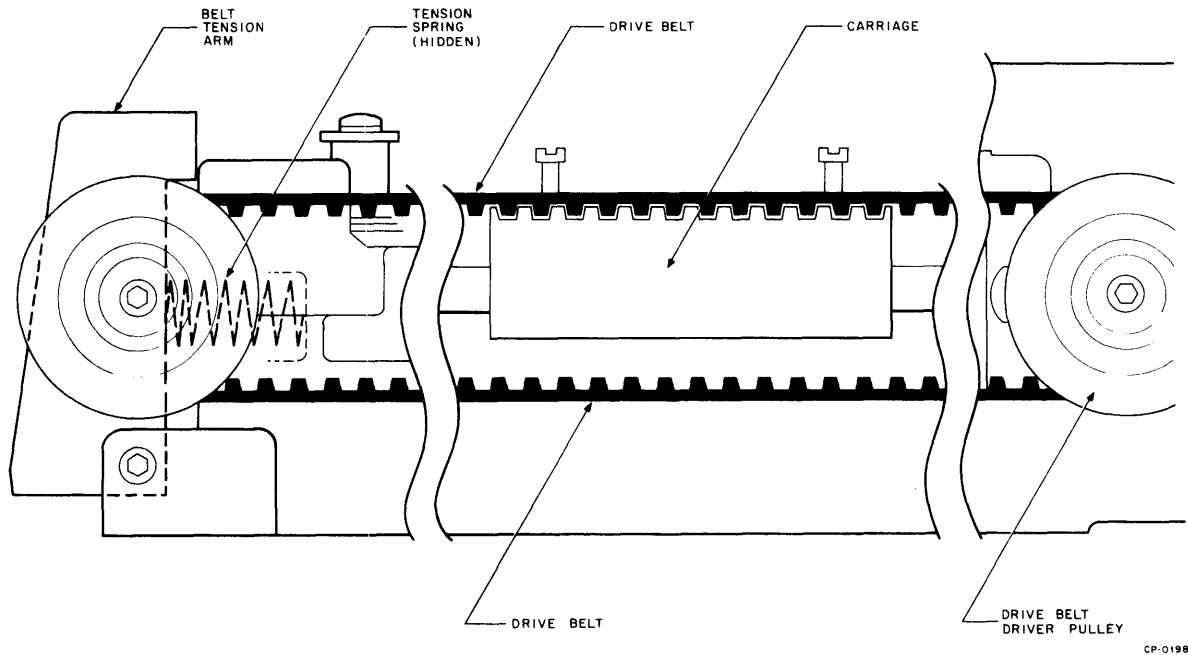

Figure 5-10 Drive Belt Removal
4. Push with hand on belt tension arm (Figure 5-10) to release tension on belt. Remove belt from pulleys and carriage.